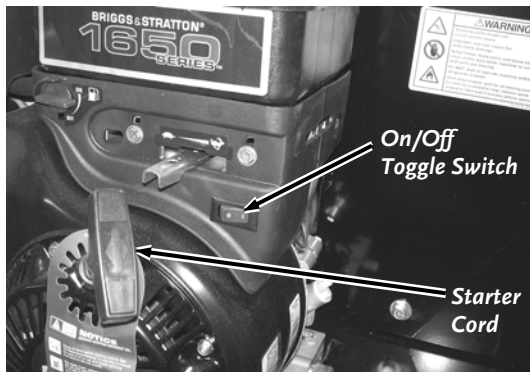

Figure 18
4. Push the On/Off Toggle Switch to “Start” and slowly pull the Starter Cord until you feel resistance, then pull quickly (**Figure 18**). The Cord will recoil back into position.